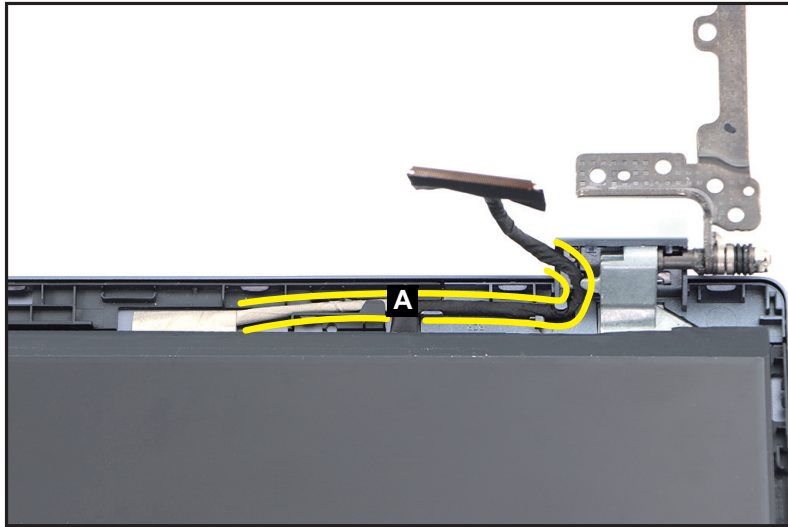

Figure 1-68. LCD Panel Removal
1. Unroute the LCD cable (A) from the bottom side of the cable guides on the LCD cover as shown in Figure 1-68.